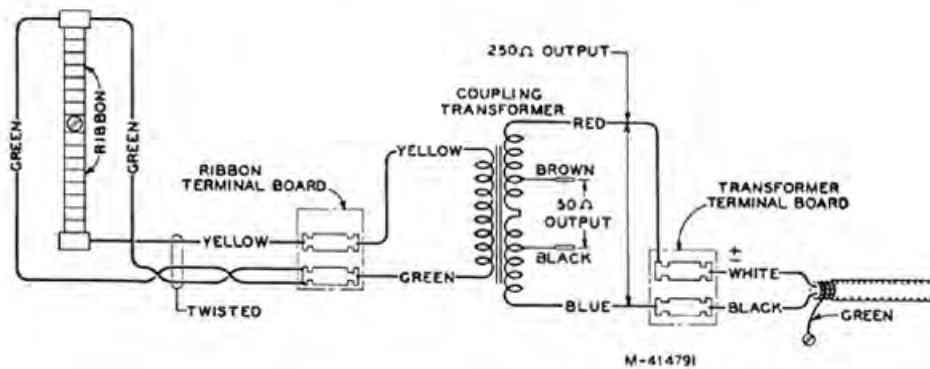

Figure 4—Schematic Wiring Diagram of Microphone
*(c) Cable Connections.*—The microphone is shipped connected for 250-ohm output. Transformer connections for 50-ohm output are shown in Figure 4. The transformer taps and terminal board are rendered accessible for inspection or service by taking out the three screws located about the microphone screen mounting flange and removing the screen.
microphone cable terminal board, of the lesser number of microphones necessary to bring all the units into phase. A thirty-foot cable is furnished as part of the microphone equipment. The microphone plug must be furnished by the customer. For microphone connections refer to Figure 4, Schematic Wiring Diagram.